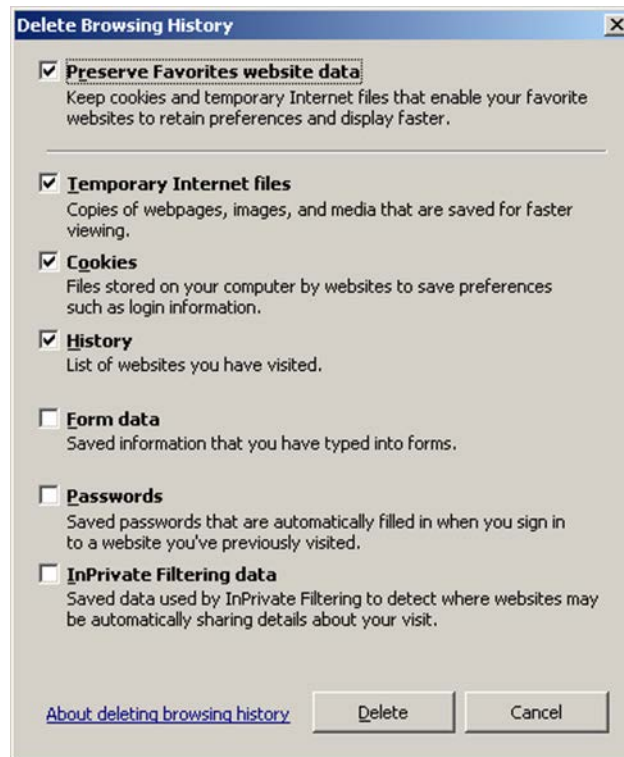

Figure 7: Internet Explorer Delete Browsing History screen
2. Select the options as shown in Figure 7.